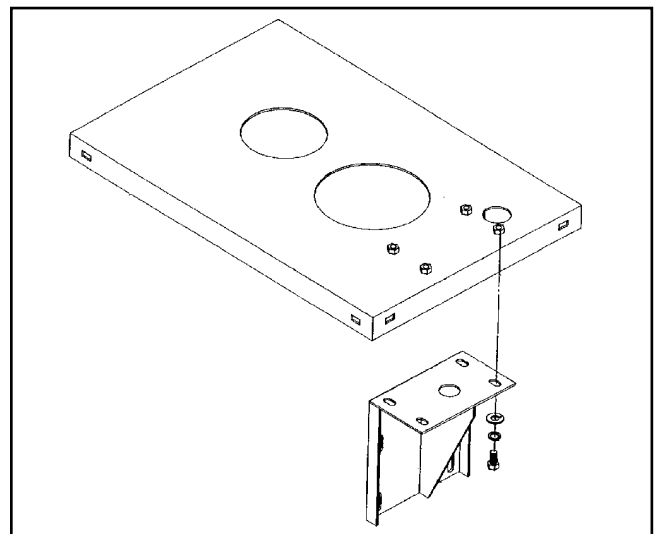

Figure 4.
4. Attach the motor mount to the underside of the stand. Finger tighten only. **Figure 4.**